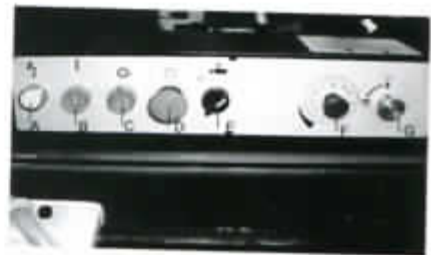
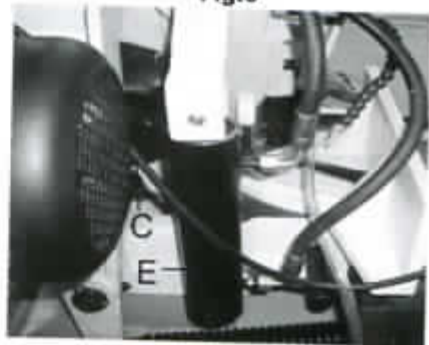

Fig.3
Fig.4
2. The machine is started by pushing the start button (B) Fig.3. And it will continue to run until the saw arm is in the down position at the end of the cut, or when the stop button (C) is pushed.
3. When in emergency push button (D), to stop the machine. After removing the trouble release emergency button re-start the machine by pushing the start button (B).
4. When using the coolant turn the select button (A) to the right.
5. To adjust the feeding rate when in cutting, turn the volume valve (F) clockwise for faster feeding, counterclockwise for slower feeding. When valve (F) has been properly adjusted, turn the control valve (G) to hand saw action.
7. If the motor stops before the cut is completed or continues to run after the cut is completed, the limits switch (D) Fig.4. Can be adjusted up or down by loosening the two screws (E).